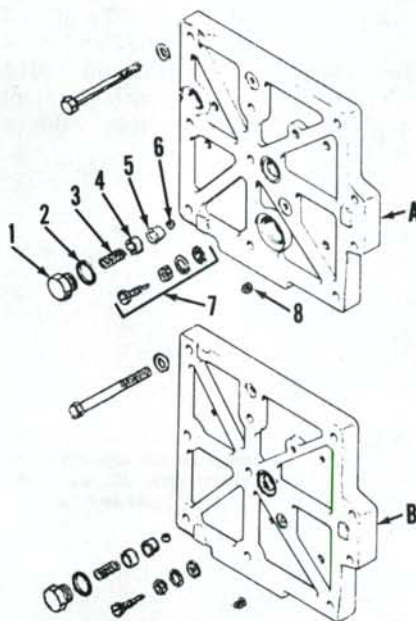
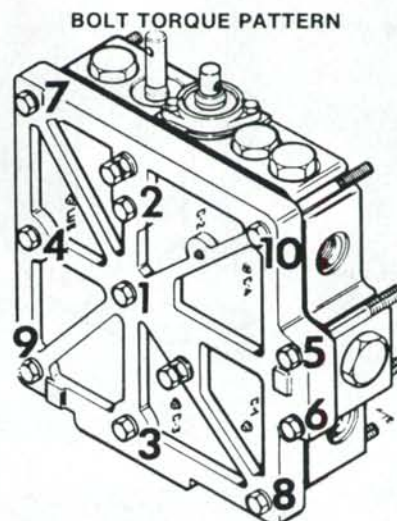

Fig. 138—View of Model 2090 and 2290 (A) and Model 2390 and 2590 (B) power shift control valve covers.
Fig. 139—When installing control valve, tighten cap screws to a torque of 30-35 ft.-lbs. (40.7-47.5 N·m) using sequence shown.
129. REMOVE AND REINSTALL. To remove the transmission control valve, first clean transmission valve and associated parts. Disconnect the necessary supply and clutch tubes from valve. Disconnect the linkage from the valve spools. Remove detent plug (1—Fig. 138), spring (3), spacer (4) and ball (6). Remove the ten cap screws (see Fig. 139) which attach valve housing and cover to transmission and lift off valve housing and cover as a unit.
Install by reversing removal procedure. Tighten retaining cap screws to a torque of 30-35 ft.-lbs. (40.7-47.5 N·m) using the sequence shown in Fig. 139. Adjust valve linkage if necessary as outlined in paragraph 124.